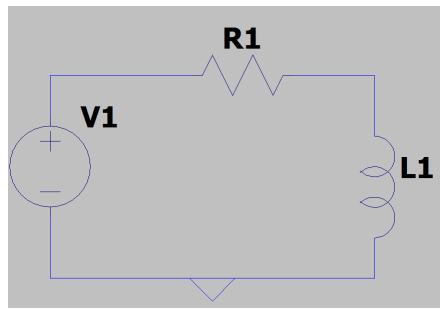

Figure 2: RL circuit
In this part, you are supposed to perform frequency-domain analysis of the RL circuit in Figure 2. You have observed that the behaviour of the circuit changes with frequency. However, as it is hard to simulate the circuit at each frequency, you can see its behaviour in a frequency range in logarithmic plots (i.e., Bode plots) by AC analysis.
3. In our hardware labs, the signal generator has a serial output resistance of 50 Ω . Therefore, to get consistent results between your design and its hardware implementation, you need to consider this resistance in LTSpice. Hence, modify the circuit in Figure 2 as follows: